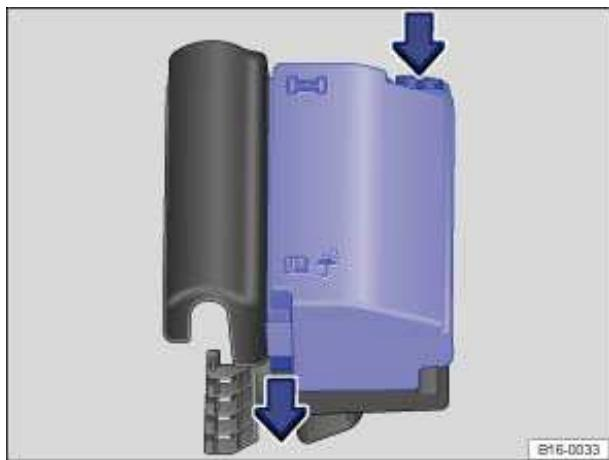

Fig. 148 In the engine compartment: Fuse box cover.
- Move the release tabs in the direction of the arrows ⇒ fig. 148 to unlock the fuse box cover.